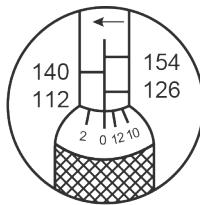

FIG1 112Nm
3. Lock the handle securely by turning the lock nut clockwise. The wrench is now set at 120 Nm and is ready to use. See Figure 1 and 2.